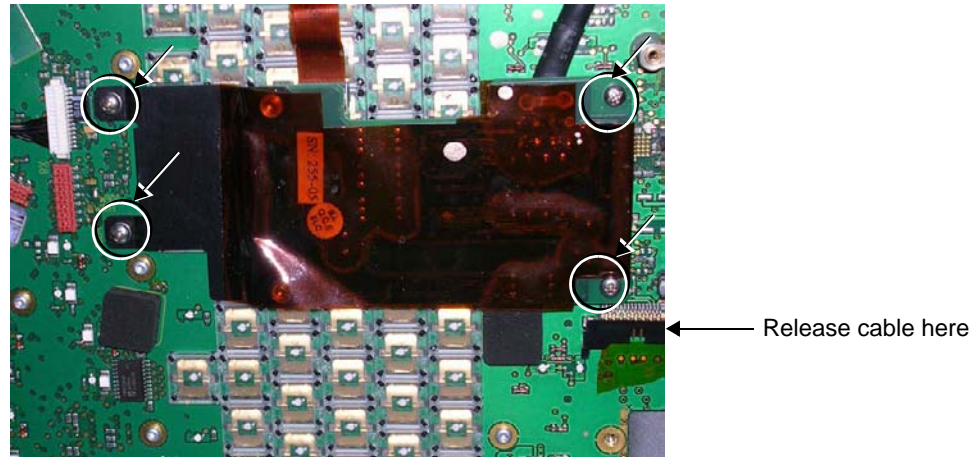

Figure 8-13 ECG Module Assembly Removal
- 2) Tilt the Control Panel and Keyboard on its side. Disconnect the ECG Module cable from the base of the Control Panel (use a flat screwdriver to loosen the securing nut) - see Figure 8-13 below.
- 3) Return and fasten the four hex nuts (two on either side of the bracket) to secure the ECG Module assembly to the base of the Control Panel (refer to Figure 8-13, above).
- 4) Re-connect the ECG Module cable to the base of the Control Panel (use a flat screwdriver to tighten the securing nut) - see Figure 8-13, above.